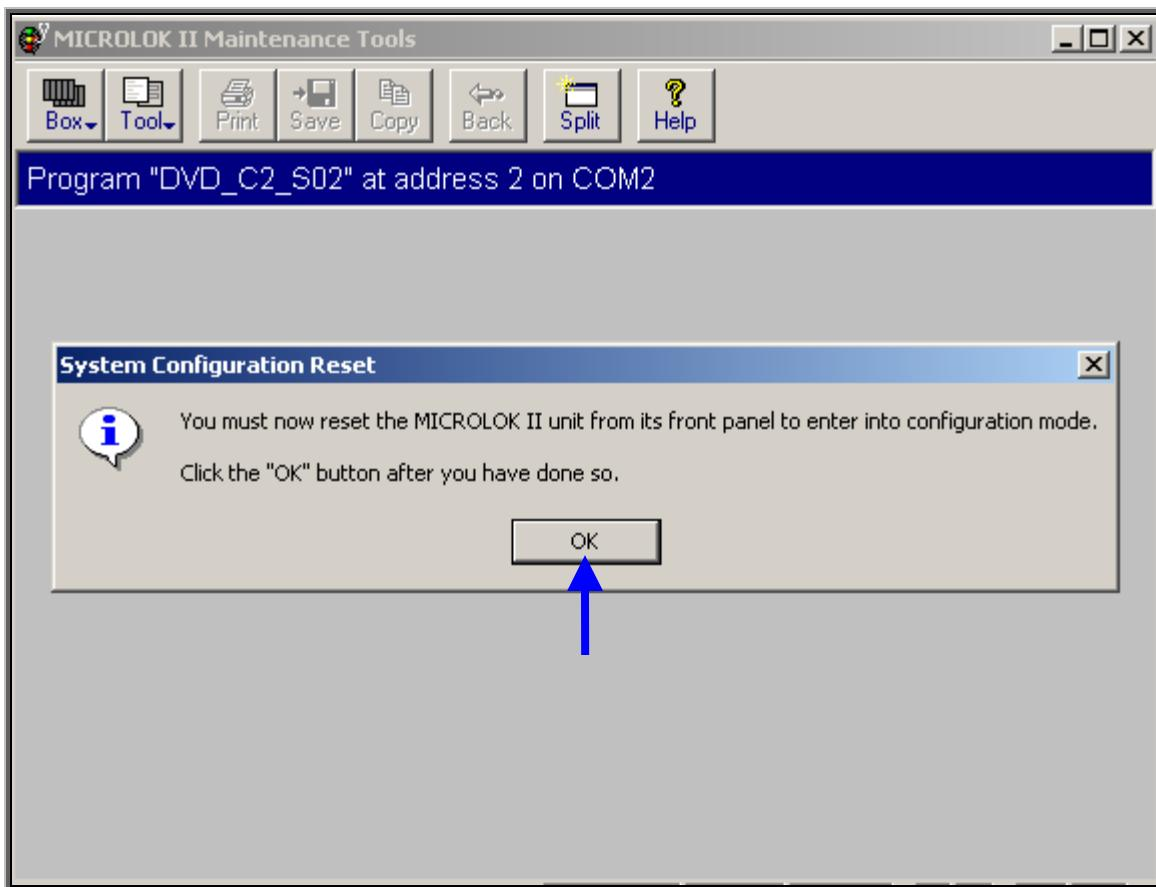

Figure-7.3.5
- ❖ “System Configuration Reset” dialog box appears as shown in Figure-7.3.5.